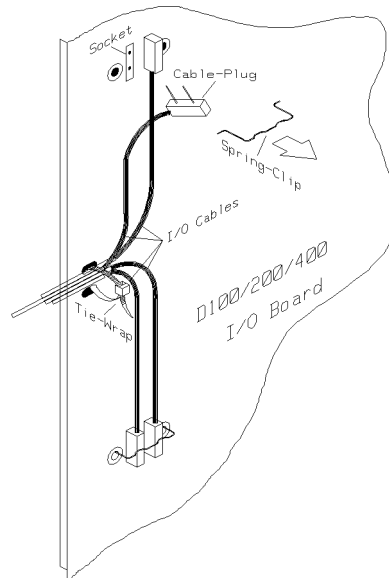

Figure 10-11. Changing I/O Cables
2. Starting with the top set of I/O cables, remove the metal spring-clips holding the black I/O cable connectors in place. See Figure 10-11